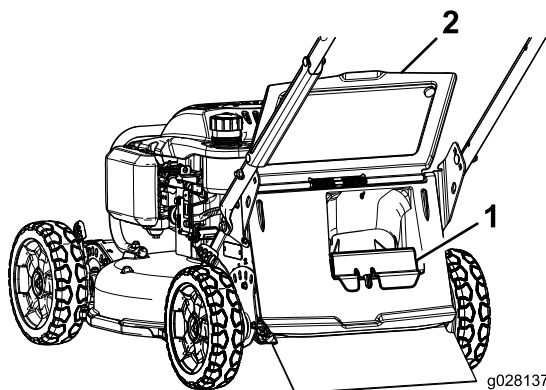

Figure 16
- If the rear-discharge plug is not installed, grip it by the handle, raise the rear door, and insert it into the rear-discharge chute until the latch locks into place (Figure 16).
3. Remove the rear-discharge plug by pushing in the latch with your thumb and pulling the plug out from the machine (Figure 16).